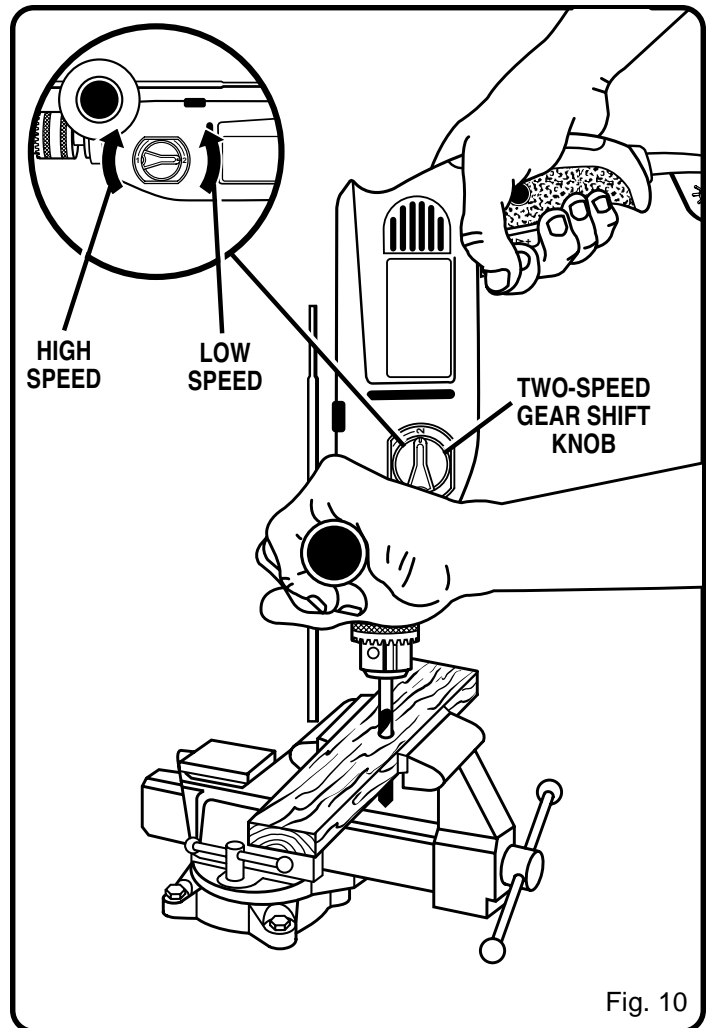

Fig. 10
See Figure 10.
- Move the drill bit into the workpiece applying only enough pressure to keep the bit cutting. Do not force your drill or apply side pressure to elongate a hole. Let your drill and bit do the work. See Figure 10.